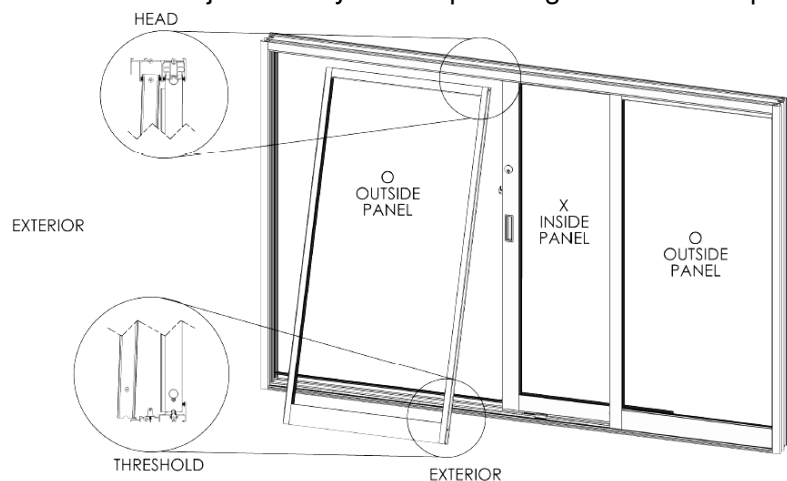

Figure 20:
1. Assemble and install the frame, as instructed. From outside, with the weather-strip facing outside, insert the "X" panel into the inside channel of the head, push up and swing the bottom of the panel in and down onto the sill. Insert the right side fixed panel and slide the "X" panel to the right side fixed jamb. Insert the left side fixed panel without interlocker (Figure 20). **Leave the head unanchored until the false jamb has been installed and set into position.**